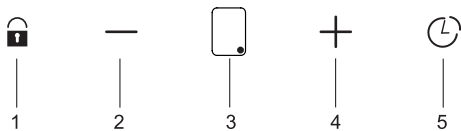

Fig. 8: Multi-level switch for the fan
3. Reduce the fan power level by pressing the button (Fig. 8/2).